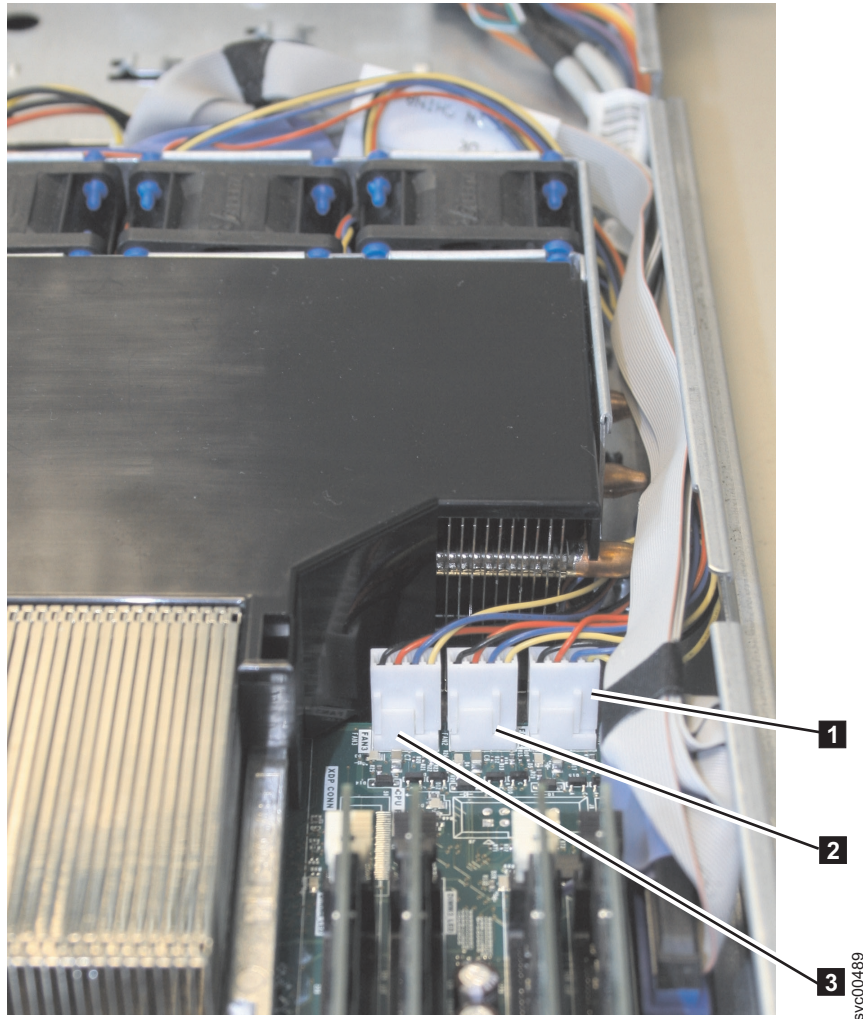

Figure 269. Connectors for the SAN Volume Controller 2145-8A4 heat exchange fans
12. Remove the five fan connectors along the front edge of the system board. Figure 269 on page 288 shows three of the fan connectors.